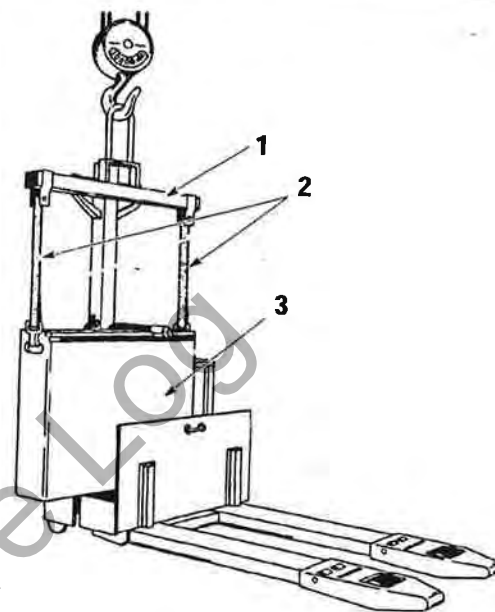
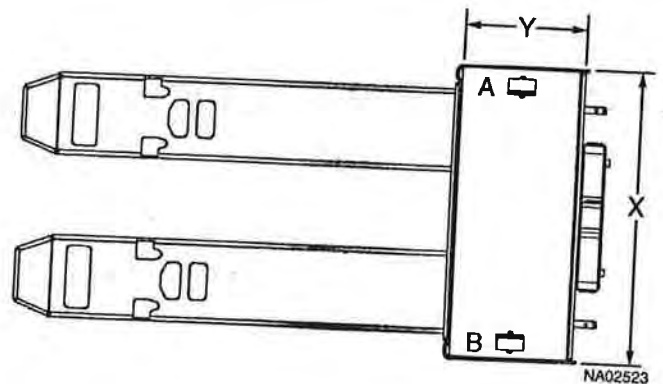

FIGURE 13. CHANGING THE BATTERY
FIGURE 14. BATTERY COMPARTMENT (4500# ONLY)
2. Use a spreader bar and crane to lift the battery from the lift truck. See FIGURE 13. Before installing the battery, make sure the battery is cleaned and painted. When a replacement battery is installed, make sure the battery fits the battery compartment. Use spacers to prevent the battery from moving more than 13mm (0.5in.) in any horizontal direction. See FIGURE 14. and TABLE 4. and TABLE 5. for the correct battery specifications and adjustments.